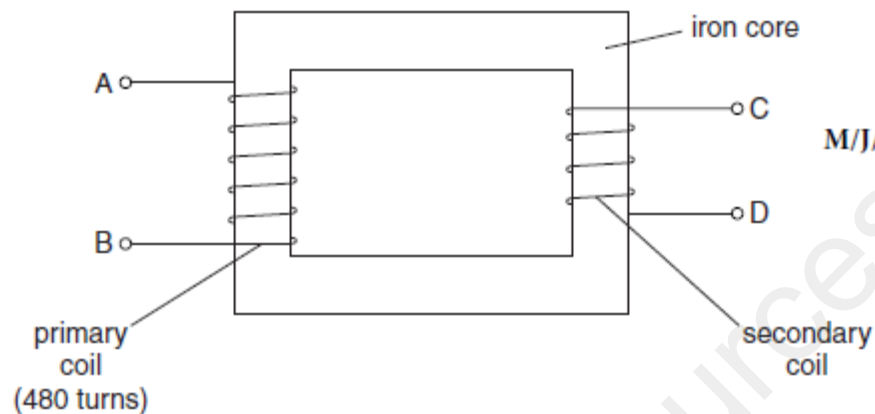

Fig. 8.1
- 8 (a) The transformer in Fig. 8.1 is used to convert 240V a.c. to 6V a.c.